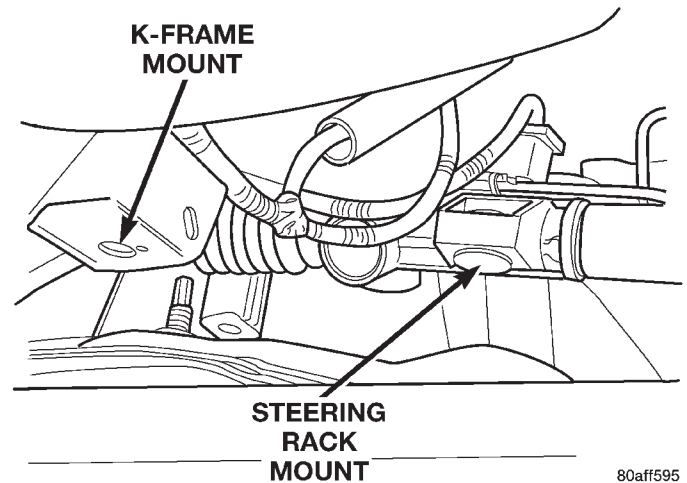

Fig. 61 Steering Gear and K-frame Bolts
- (24) Remove crank position sensor (if equipped).
- (25) Remove transaxle wiring.
- (26) Loosen right side steering gear bolts. Loosen right side K-frame bolts.
- (27) Remove left side steering gear bolts. Remove left side K-frame bolts (Fig. 61).